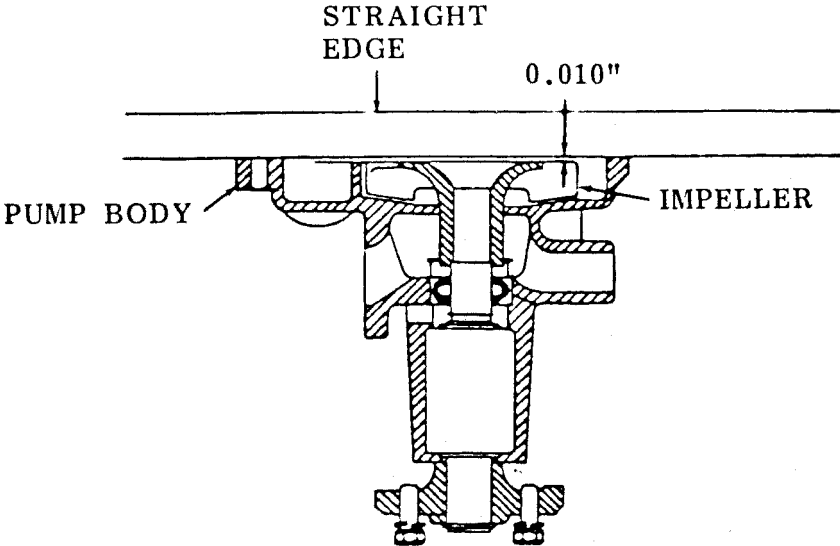

Figure 9-4. Checking Impeller to Cover Plate Clearance.
- (2) Press shaft, bearing and flinger assembly (21) into pump body and install retaining ring (17 ).
- (3) Support pump on outer end of shaft and press impeller (22) onto shaft, bearing and flinger assembly to obtain 0.010 inch clearance between impeller and cover plate (fig. 9-4).
- (4) Install gasket (20) and cover plate (19 ) and secure with screws (3).
- (5) Press pulley hub (13 ) onto shaft (21) until shaft is flush with front of pulley.
- (6) Install water inlet housing (8) and new gasket (9) with screws (7) and lockwashers (6).